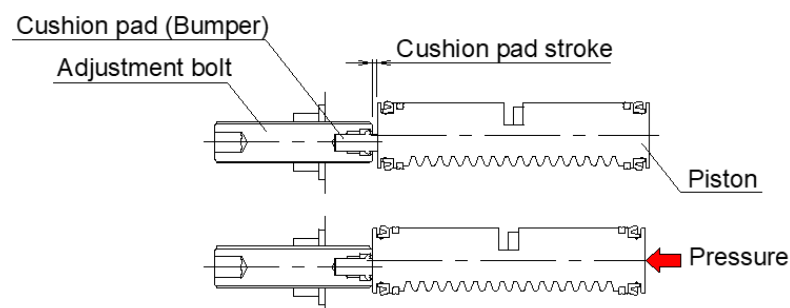

Fig. 4
- Refer to the setting example of the rotation angle range. (Fig.4)
- Since the end of adjustment bolt of Series MSQ has a built-in cushion pad (or a bumper), when angle adjustment is made, push the piston completely while pressurizing (minimum operating pressure for cushion pad : 0.1MPa or more, minimum operating pressure for bumper : 0.3MPa or more) as shown in Figure 4. Please refer to page 45 for details.